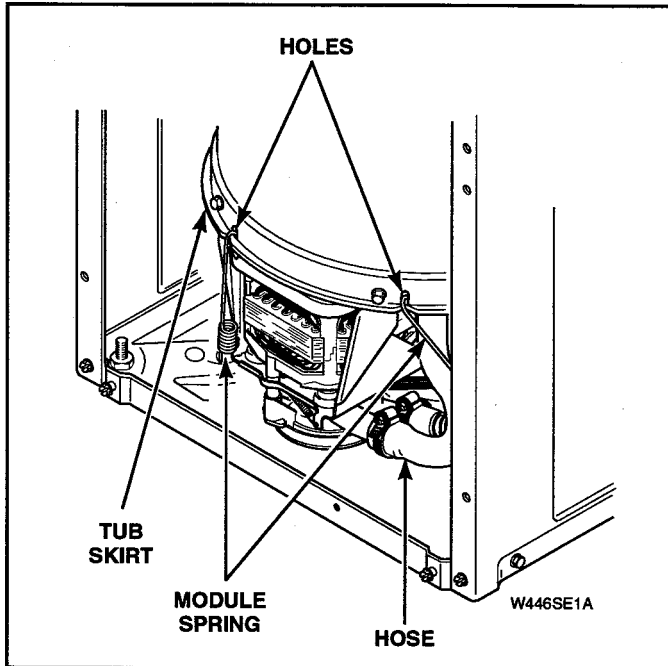

Figure 5-36
- q. Using No. 289P4 Spring Hook Tool, unhook six module springs from lower edge of outer tub. See Figure 5-36.
- h. Using No. 289P4 Spring Hook Tool, unhook six module springs from lower edge of outer tub. See Figure 5-36.
- Using No. 289P4 Spring Hook Tool, unhook six module springs from lower edge of outer tub. See Figure 5-36.